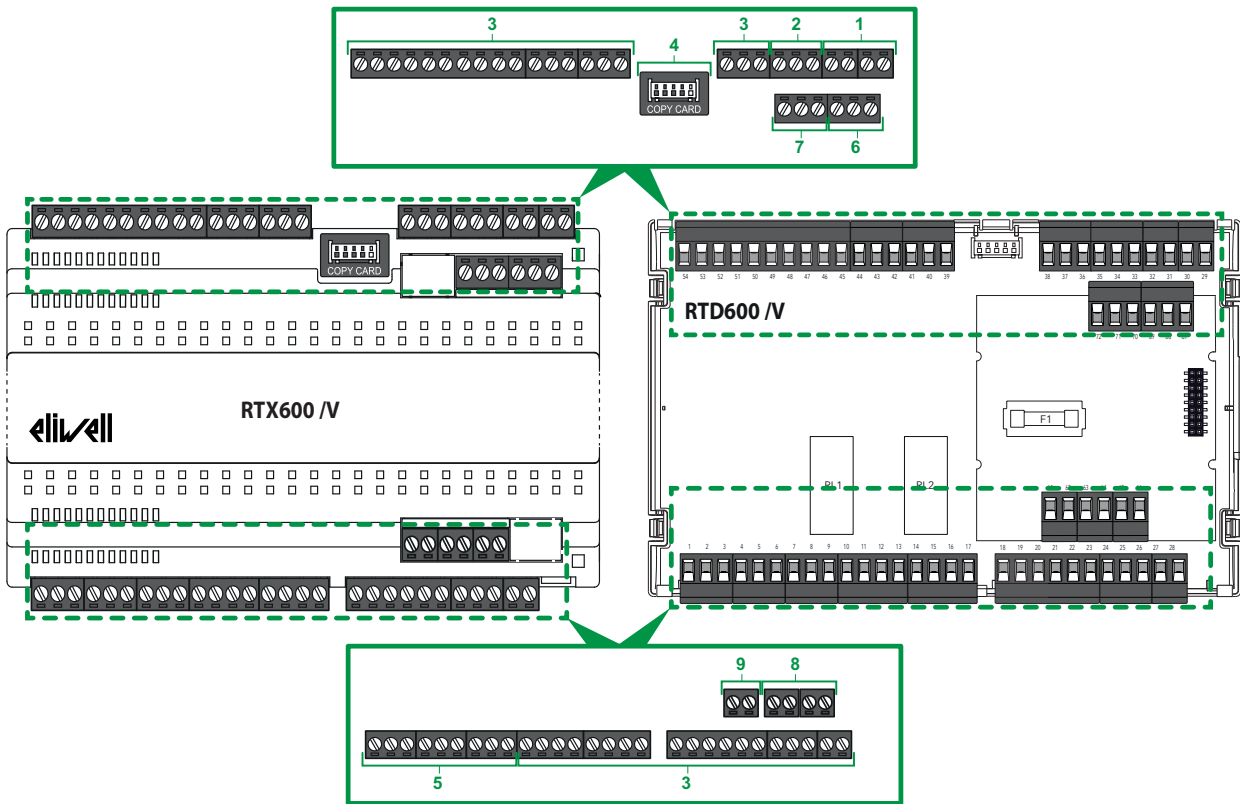

Fig. 4. Main components of the RTX-RTD 600 /V
**NOTE:** Fig. 4 on page 16 shows the RTX-RTD 600 /V device with the removable connectors mounted.